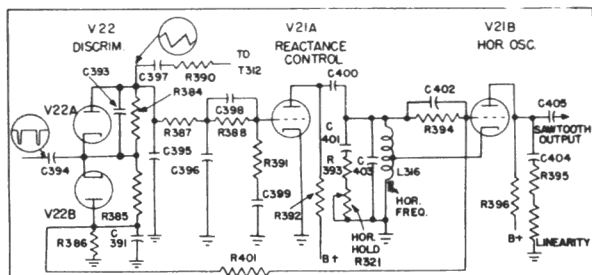

Fig. 9. Hor. Sweep and AFC Sync (U and W Version)
In the "U" and "W" version receivers which use a different type of horizontal AFC circuit, the clipper circuit is used. The diode V7B is used only as a d-c restorer, R279 being omitted in the "U" and "W" version. The only clipper is the second section of V20. This particular type of AFC circuit requires negative-going sync pulses taken from the clipper plate instead of from the cathode. The negative-going sync pulse output of V20 is applied to the cathode of the AFC diodes as indicated in Figure 9 and also to the vertical integrating circuit. The negative-going vertical sync pulses are applied to the grid of V10B of the vertical sweep generator rather than V10A.
6. HORIZONTAL SAWTOOTH GENERATOR AND AFC SYNC (SEE FIGURE 7 AND FIGURE 9).
The control shown in Figure 9 is the Horizontal Hold Control which establishes the correct operating frequency for the sine wave oscillator.